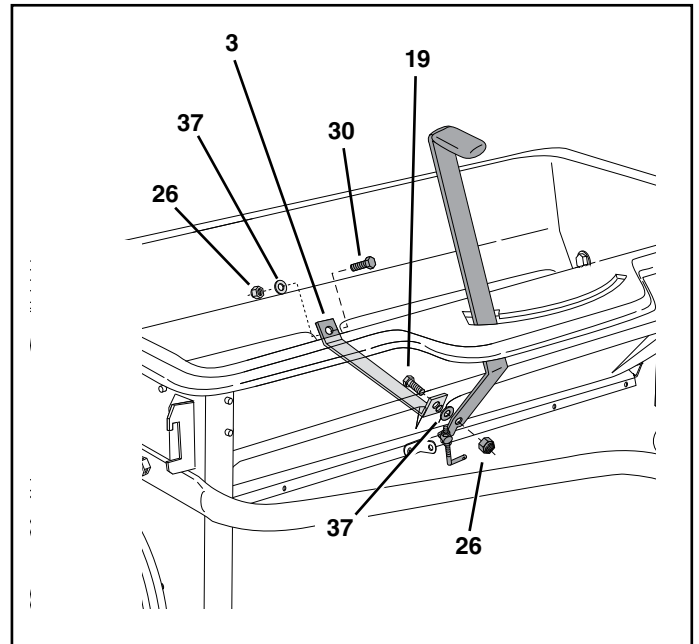

FIGURE 8
- Place the flow control lever into the slot in the hopper. See figure 8.
- Place the center brace (3) into the hopper. Insert the 1/4" x 1-1/4" hex bolt (19) through the center brace and the front of the hopper. Assemble a 1/4" flat washer (37), the flow control lever and a 1/4" nylock hex nut (26) onto the bolt. **Do not tighten yet.** See figure 8.
- Insert the 1/4" x 3/4" hex bolt (30) through the center brace and the rear of the hopper. Assemble a 1/4" flat washer (37) and 1/4" nylock hex nut (26) onto the bolt. **Tighten** both the front and rear bolts. See figure 8.